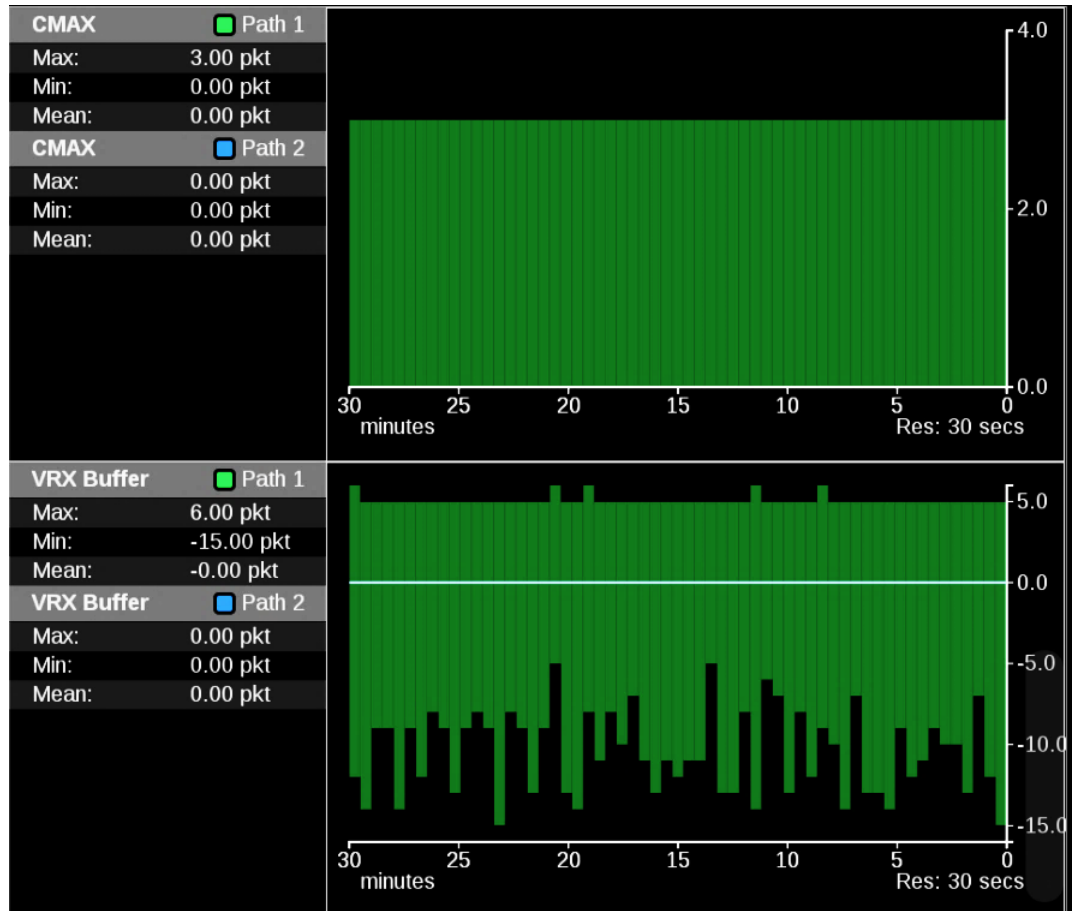

Figure 164: IP Graphs application – CMAX and VRX Buffer graph
- A network compatibility model to regulate the burst characteristics of senders, which promotes the compatibility with the switches. The CMAX section provides a trend graph for this type of modeling. (See Figure 164.)